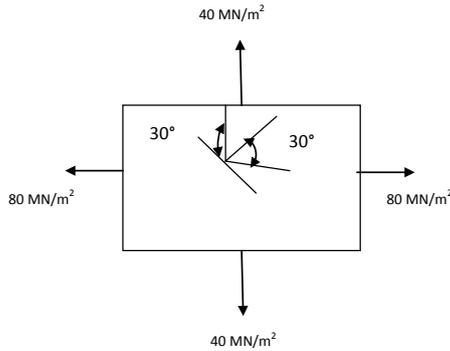

Fig . 2.13
15. The principal stresses in the wall of a container (Fig. 2.13) are 40 MN/m^2 and 80 MN/m^2 . Determine the normal, shear and resultant stresses in magnitude and direction in a plane, the normal of which makes an angle of 30° with the direction of maximum principal stress.